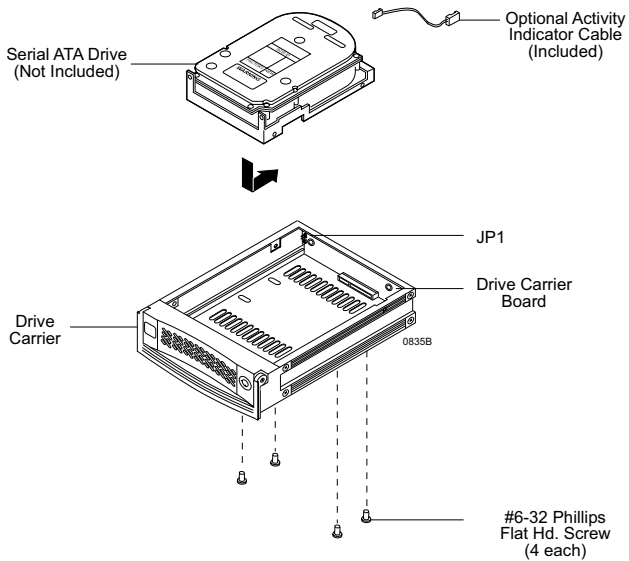

Figure 6: Drive Installation Assembly
1. Carefully insert the drive into the carrier. Slide the drive towards the Drive Carrier Board, so that the I/O connector on the drive mates with the connector on the Drive Carrier Board (Figure 6). Turn the drive/carrier assembly over.
2. Fasten the drive into place with four (4) #6-32 Phillips Flat Hd. screws (Figure 6). Some drives may require minor adjustment before securing into carrier with screws.